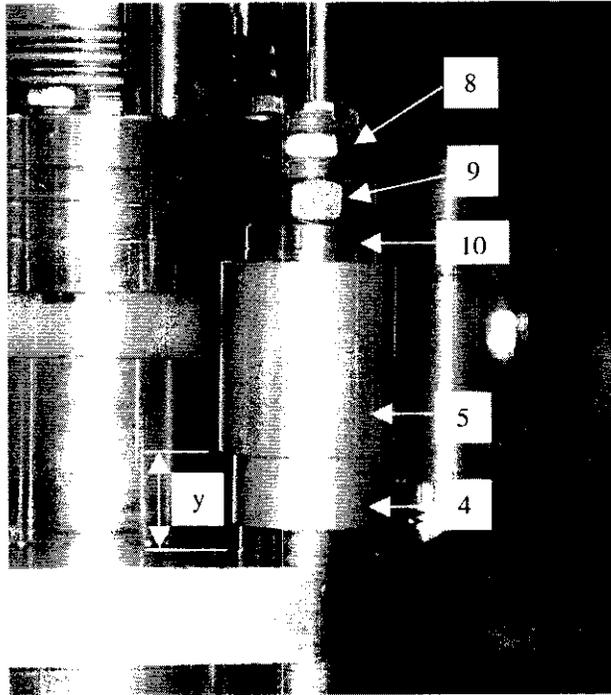
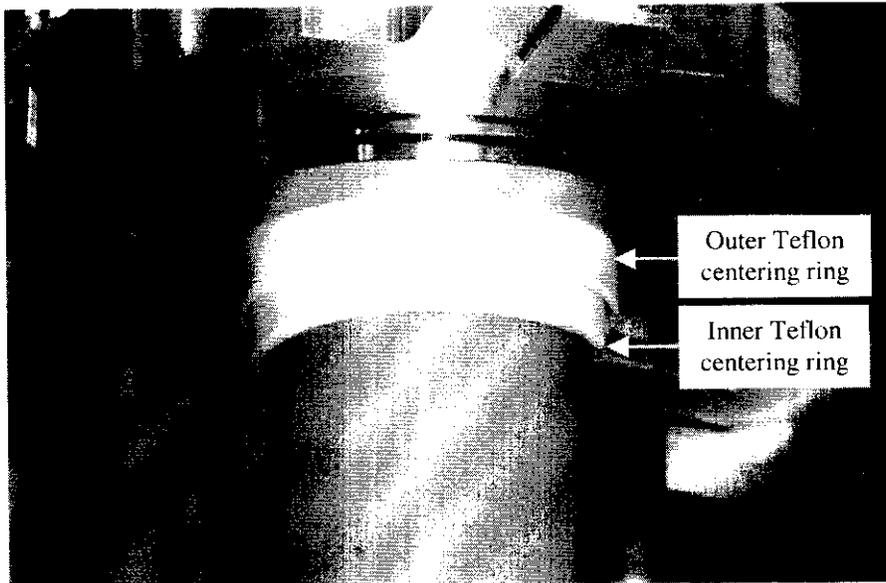

Figure 1.27a An installed Belleville Washer Assembly.
Figure 1.28.1.2 The installed Teflon centering rings.
- 1.27** Install Belleville Washer Assemblies on each tensioning stud per Figures 1.27a and 1.27b. A spherical washer must be placed below the Belleville washer holder on each stud. In the figures: Items 11 (10 each) are Belleville Washers, arranged as shown; Items 6 (2 each) are flat washers; Items 4 and 5 are the Belleville Washer Holder; Item 10 are Spherical Washers for above and below the washer holder; Item 9 is a loading nut; and Item 8 is a jam nut.
- 1.28.1.2** Center the lower end of the lead in the chimney using two Teflon centering rings. The inner Teflon centering ring goes between the power lead and the lower insulator. The outer Teflon centering ring goes between the lower insulator and the chimney. A small rubber mallet may be used to help install the Teflon centering rings. The installed Teflon centering rings are shown in Figure 1.28.1.2.
- 1.28.1.3** Tighten the 6 loading nuts finger-tight. With adjustable parallels, measure and record the gap “y” indicated in Figure 1.27a between Item 5 and the current lead top flange at the 6 locations specified in Figure 1.28.1.5. Units are mm.
1.28.1.6 Record the final measured gaps 'y' in Figure 1.27a. Units are mm.
- 1.28.2.3** Tighten the 6 loading nuts finger-tight. With adjustable parallels, measure and record the gap "y" indicated in Figure 1.27a between Item 5 and the current lead top flange at the 6 locations specified in Figure 1.28.1.5. Units are mm.
- 1.28.2.6** Record the final measured gaps 'y' in Figure 1.27a. Units are mm.